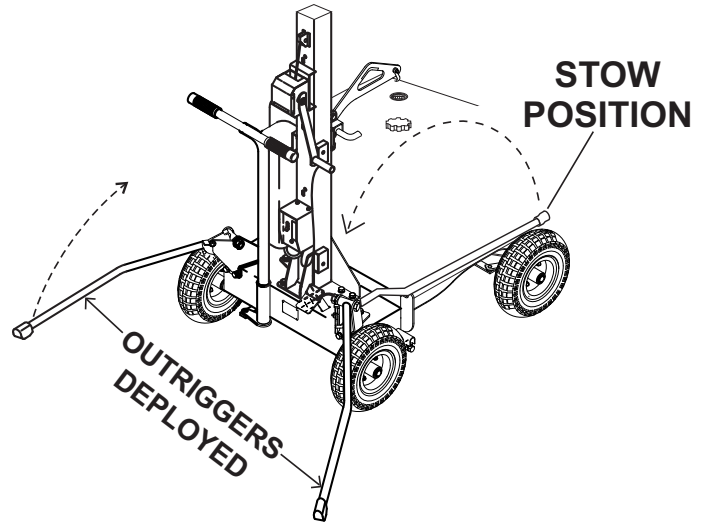

Figure 8. Outriggers (Deployed Position)
- Lift up on each outrigger (2) from its stow position, rotate backwards and place it in the deployed position, as shown in Figure 8. The outriggers will automatically lock in place once they touch the ground,